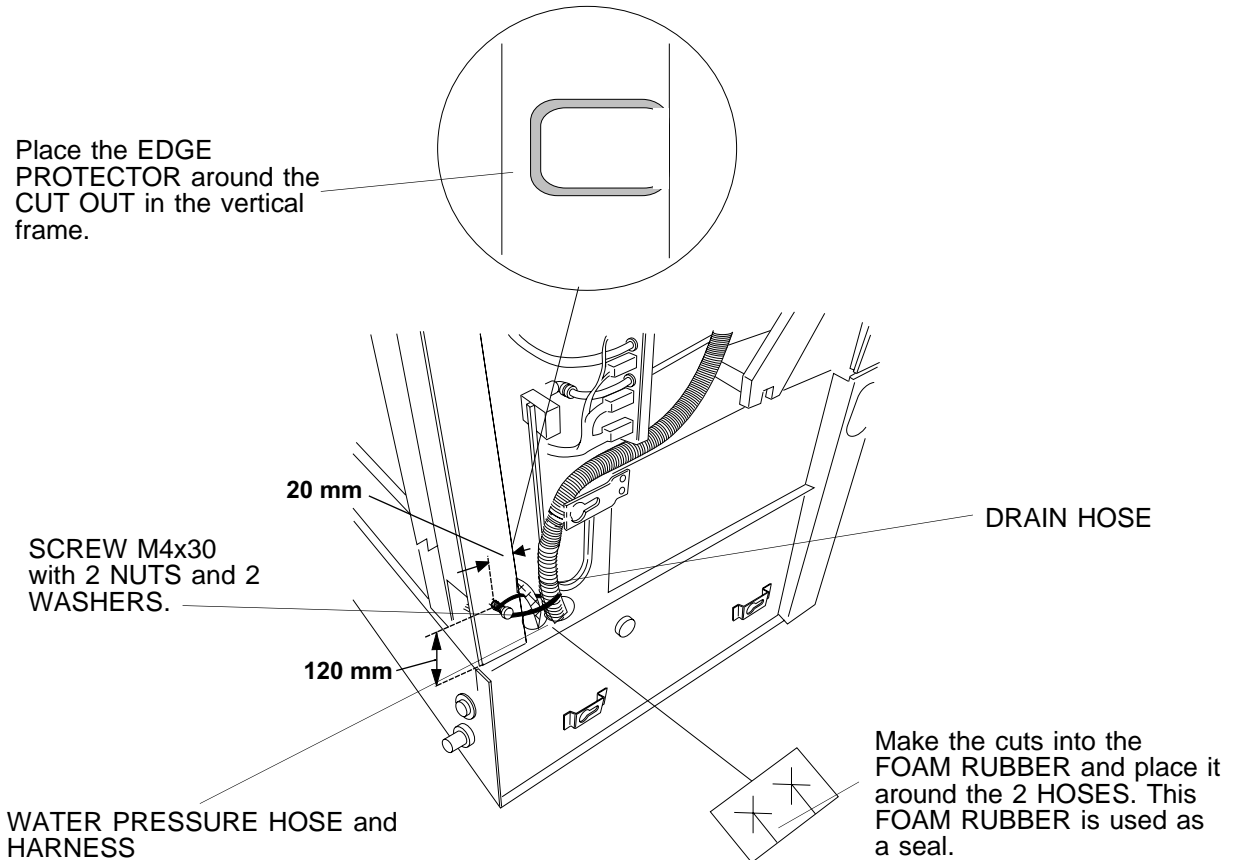

figure 2-14
- 30.** Place the GROMMET STRIP at the hole for the WATER PRESSURE HOSE. The GROMMET STRIP prevents the WATER PRESSURE HOSE from being cut. See figure 2-14.
- 34.** Drill a hole 5 mm into the FRAME and mount the SCREW M4x30 with 2 NUTS and 2 WASHERS. Fix the DRAIN HOSE with a WIRE TIE to this SCREW. This ensures that the DRAIN HOSE does not come in contact with moving parts. See figure 2-14.